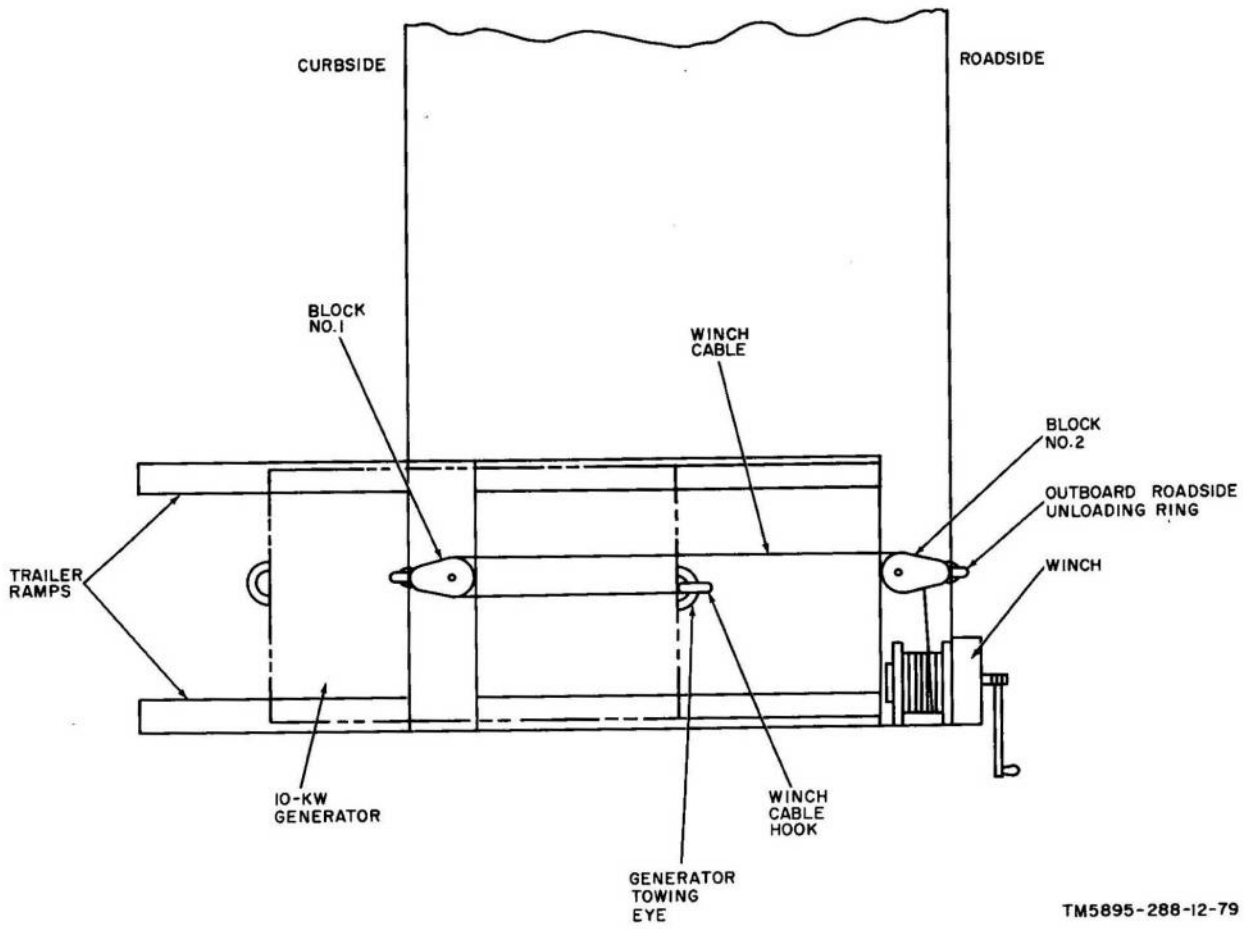

Figure 67. Winch cable arrangement for unloading 10-kw generator.
- (1) Tag and disconnect all the leads on the rear panel of the subscriber power supply.
- (2) Loosen the screws on the left side of the power and signal entrance box, and swing the front panel out.
- (3) Remove the four nuts and washers that hold the subscriber power supply to the bottom of the power and signal entrance box. Remove the power supply.
- (4) Position the new subscriber power supply in the bottom of the power and signal entrance box, and secure with the nuts and washers removed ((3) above).
- (5) Fasten the front panel of the power and signal entrance box with screws.
- (6) Connect the leads to the rear panel of the subscriber power supply.
j. Replacing 10-Kw Generator (fig. 67). To replace either of the two generators, proceed as follows:
- (1) Disconnect the power cable.
- (2) Apply the handbrake on the four-wheel trailer.
- (3) Remove the trailer ramps from storage and attach them to the appropriate ramp brackets.
- (4) Remove the four bolts that hold the 10-kw generator to the trailer.
- (5) With the clevis, attach block No. 1 to the outboard curbside loading ring.
- (6) With the clevis, attach block No. 2 to the outboard roadside unloading ring.
- (7) Place the control lock, located on the handle side of the winch, in the extreme left position.
- (8) Make sure the winch cable goes around block No. 2, under the 10-kw generator, around block No. 1, and back under the 10-kw generator, so that the winch cable hook can be